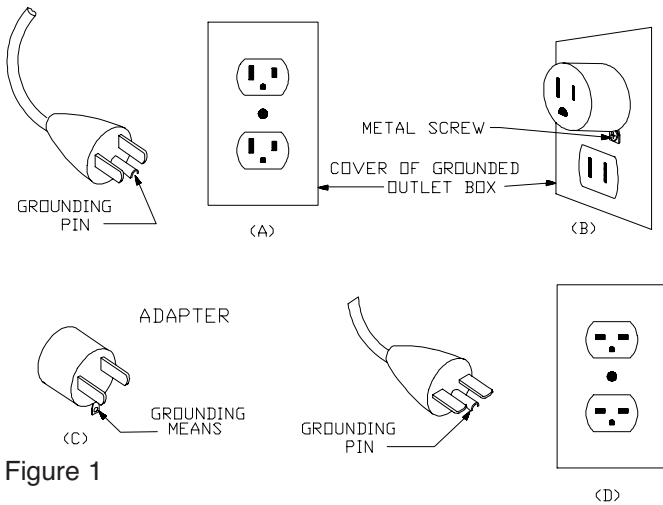

Figure 1
3. This heater is provided with a grounded-type plug and cord as shown in Fig. 1. An adapter is available for connecting three